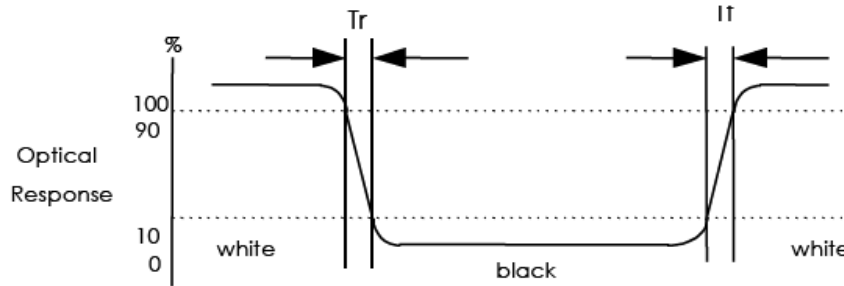

FIG. 2 Measuring method for Contrast ratio, surface luminance, Luminance uniformity , CIE (x, y) chromaticity
| Contrast ratio | Cr | | 300 | 350 | - | --- | FIG 2. | 1 |
| Luminance uniformity | δ WHITE | | - | TBD | - | % | FIG 2. | 3 |
| Surface Luminance | Lv | | 250 | 290 | - | cd/m ² | FIG 2. | 2 |
| CIE (x, y) chromaticity | Red | x | - | - | - | FIG 2. | 5 | |
Note 1. Contrast Ratio(CR) is defined mathematically as For more information see FIG 2.
Note 2. Surface luminance is the LCD surface from the surface with all pixels displaying white. For more information see FIG 2.
Note 3. The uniformity in surface luminance , δ WHITE is determined by measuring luminance at each test position 1 through 5, and then dividing the maximum luminance of 5 points luminance by minimum luminance of 5 points luminance. For more information see FIG 2.